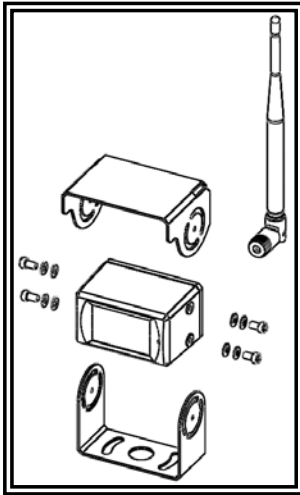

Figure 1
3. Install the camera and sun-visor on the U-bracket as shown in Figure 1.